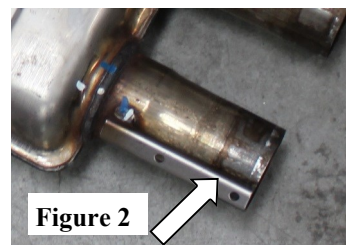

Figure 2
- Beginning with the left-side, use a flat blade screwdriver and twist to release the pin and slide the left-side band-clamp away from the muffler. (See Fig. 2)